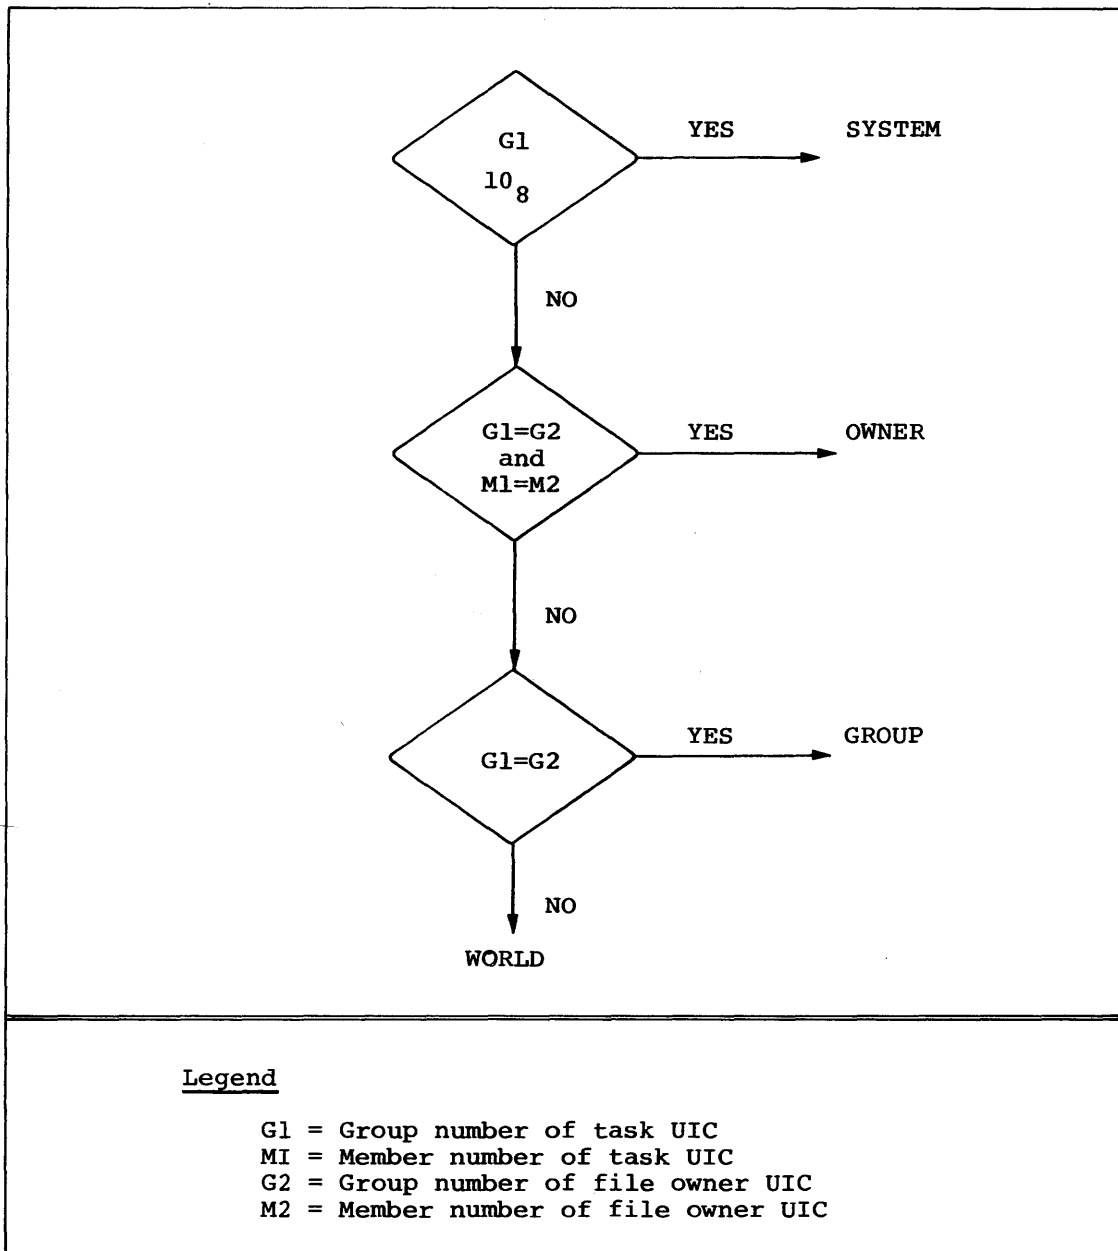

Figure 3-4
1. The task UIC is compared to the file owner UIC to determine the task's category (system, owner, group, world); see Figure 3-4.